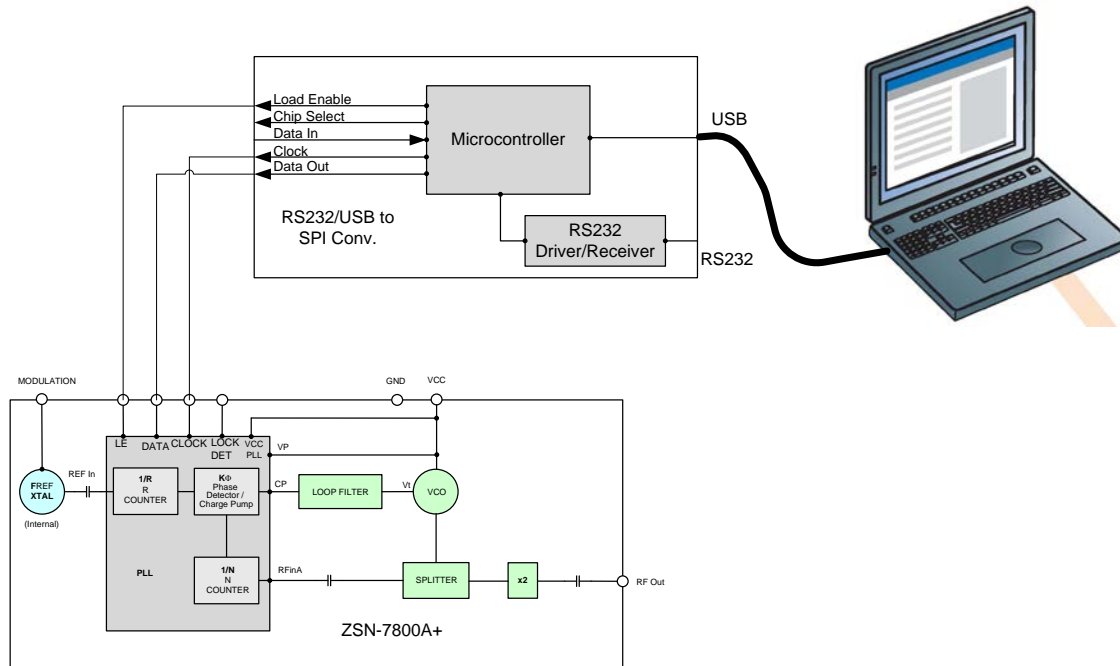

Figure 3.2.1: Synthesizer ZSN-7800A+ controlled via USB.
3.2.1 Controlling a Synthesizer. Connecting the RS232/USB to SPI converter via either USB or RS232 to a computer allows synthesizers using 3 wire serial communication (SPI) to be controlled directly using the Load Enable, Clock and Data out pins of the convertor (See **Fig. 3.2.1**). This configuration allows controlling SPI devices (synthesizer, PLL, digital step attenuators, etc...) via USB or RS232 interfaces.